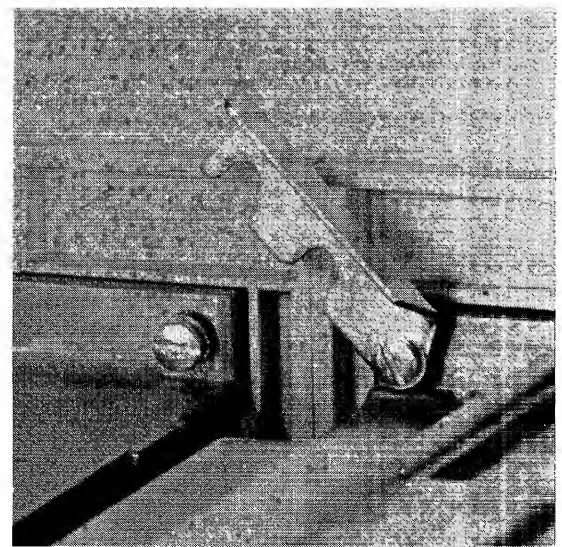

FIGURE 17 LATCH
- d. Raise latches (2) at the front of the machine, top and bottom. Screws may have to be loosened. Reference Figure 17.